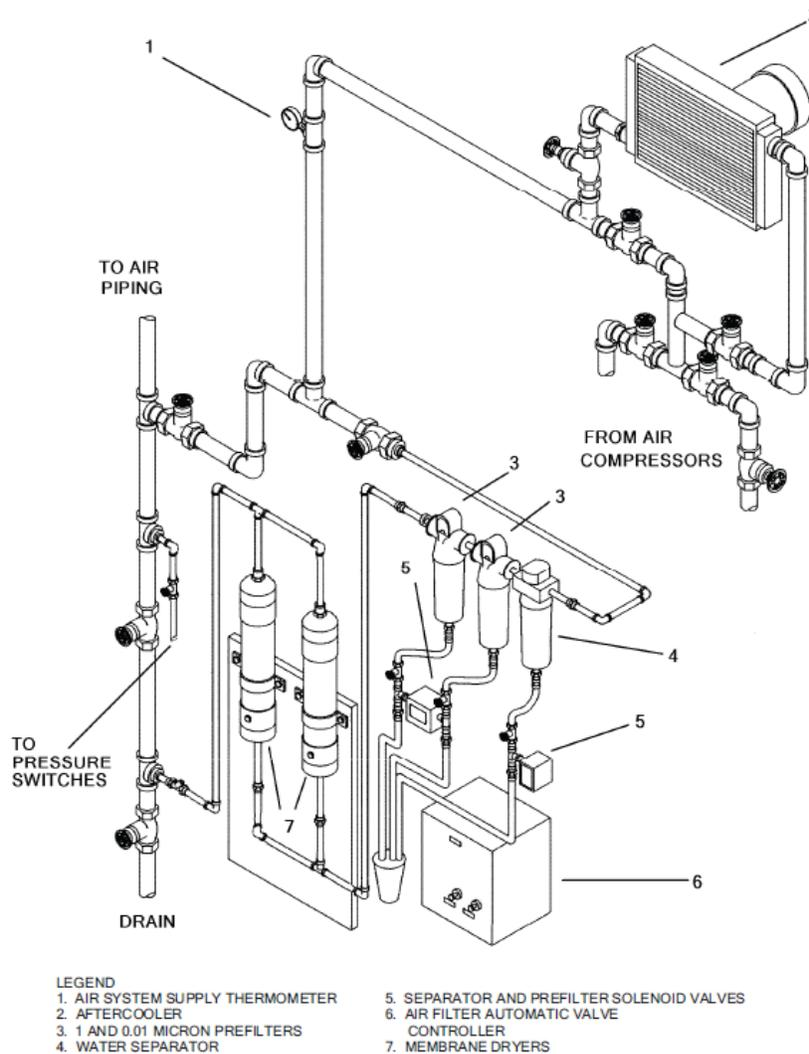

Figure 551-88L-3051\_11
- (1) Possible causes.
(2) Actions to take.
4. Demonstrate basic knowledge for troubleshooting the air compressor dehydration piping group, (refer to Figure 551-88L-3051\_11).